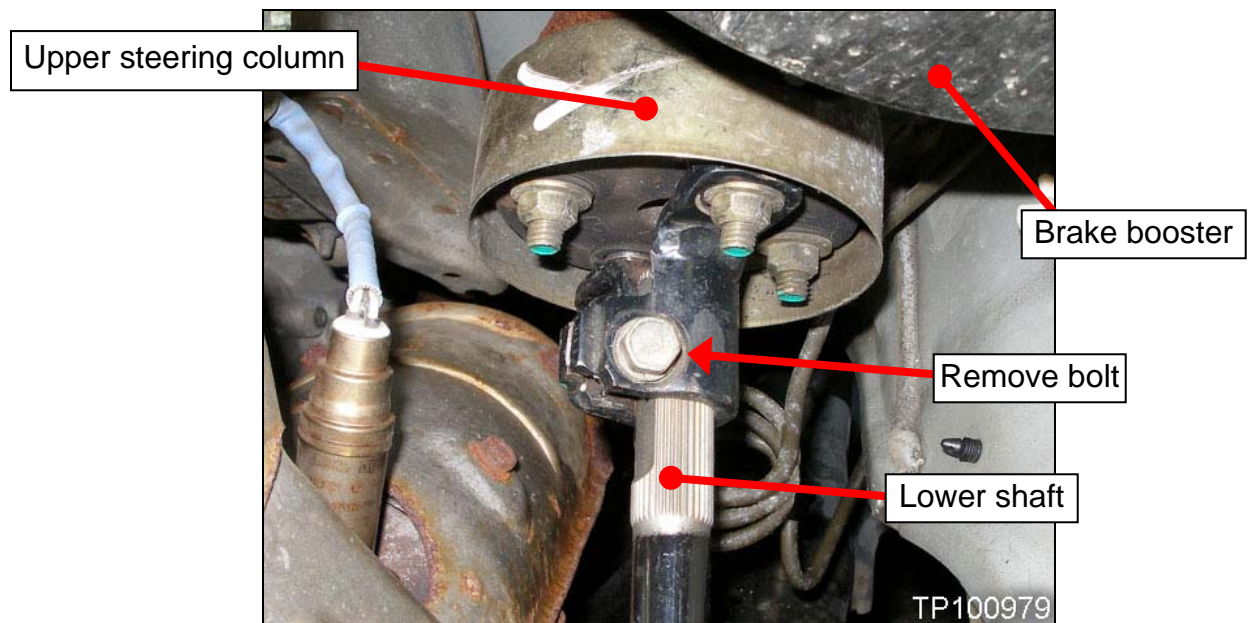

Figure 2 (viewed from under hood)
3. Remove the bolts that secure the lower shaft at both ends (see Figure 2 and 3).